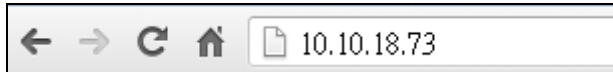

Figure 3-36: IEI iMAN Web Address
- Step 2:** On the remote management console, open a web browser. Enter the managed system IP address in the web browser (**Figure 3-36**).